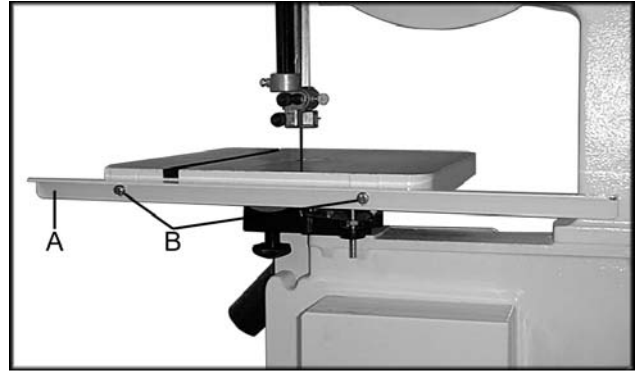

Fig. 1
2. Mount the rear rail (A, Fig. 1) to the bandsaw table using two M6x20 hex cap screws, two 1/4" lock washers and two 1/4" flat washers (B, Fig. 1). Do not tighten.